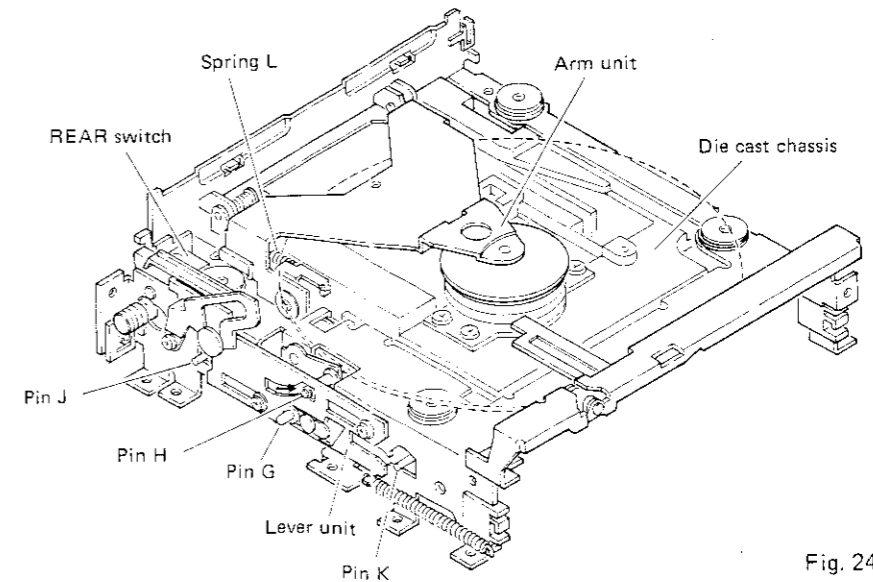

Fig. 24
6. A lever unit is moved toward the back by pin G the same as the lever. An arm unit presses the spindle motor shaft with spring L because pin H moves in the arrow direction, then a magnet holds the disc. After this, pin J and K become free and the die cast chassis becomes vibration proof. Also, the REAR switch is turned on and the loading motor stops to complete the loading operation (Fig. 24).